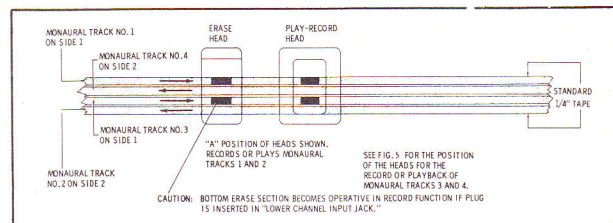

Fig. 4. "A" Position of Heads Shown
2. Place the head track selector knob in the "A" position. This action moves the heads in position with respect to the tape as shown in Fig. 4.